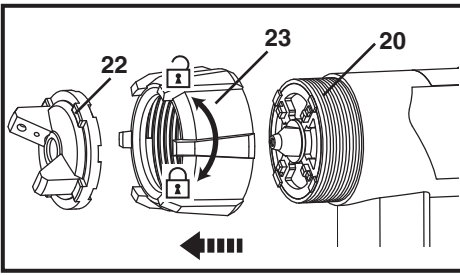

Fig. 8
1. Loosen the O-ring (23) by turning it anticlockwise and release the spray nozzle (22) and the O-ring (23) from the spray head (20) (Fig. 8).